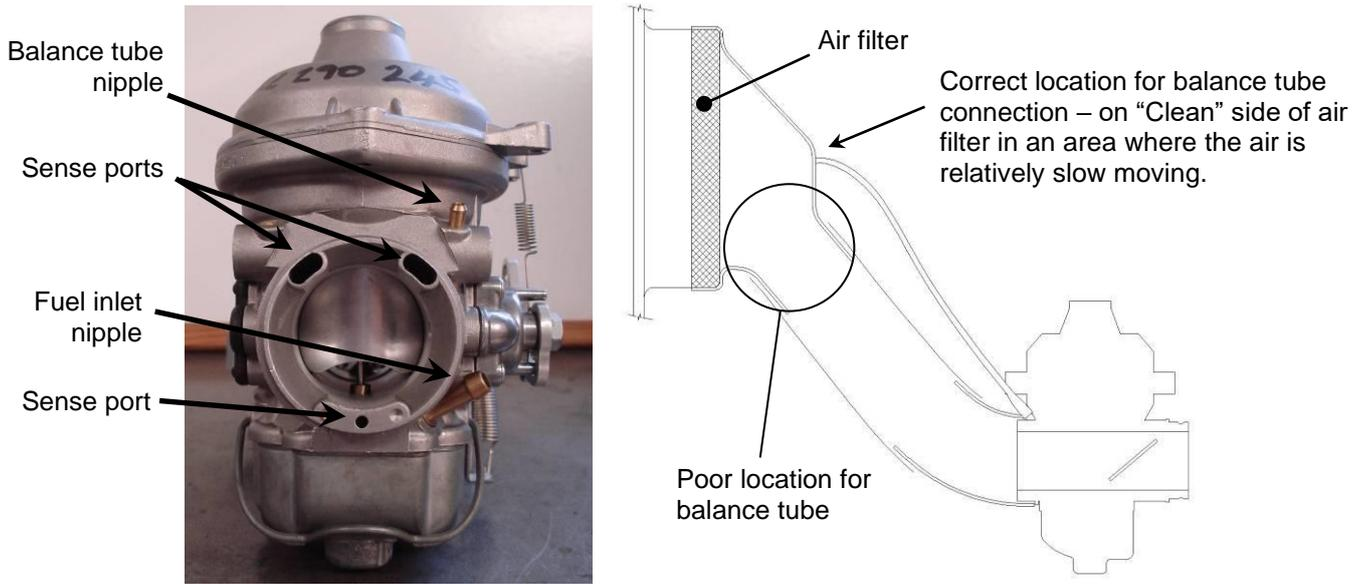

Figure 33. Carburettor Intake & Balance Tube Detail
- The Bing carburettor has a Balance tube (also known as a "sense tube") which connects the carburettor to the air box. The tube runs from a nipple on the carburettor to the airspace in the air box on the "clean" side of the air filter. This tube is part of a system or ports which "tells" the carburettor how hard the engine is working and controls how the carburettor varies the fuel / air mixture delivered to the engine. Tuning issues and poor running will result if this tube is blocked or connected to the wrong spot. Figure 33 shows the tube installation. Note that the balance tube must not be connected to the air box in a location where the air is moving fast – rapid flows produces pressure changes and boundary layer effects which mean the balance tube gives the carburettor "bad" information, which can cause poor mixture control and running issues.